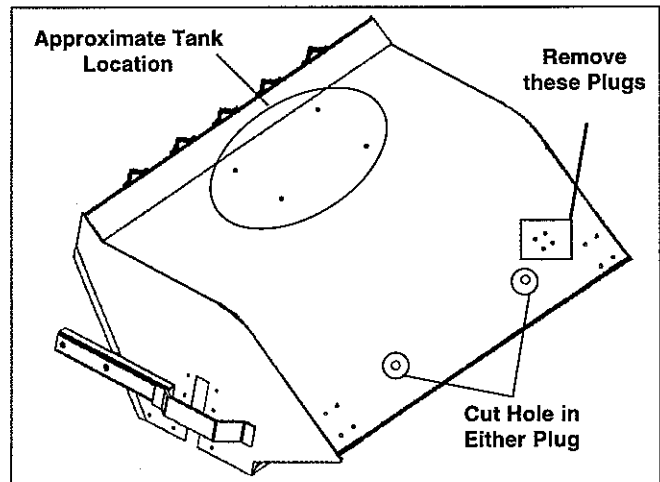

figure 27
- a. Position the tank on top of the sweeper body as far back as possible. Align the left-to-right centerlines of the tank and the sweeper. The outlet must face the left-hand side of the sweeper. See figure 27.
2. Remove 4 small plugs from the sweeper hood (figure 27).